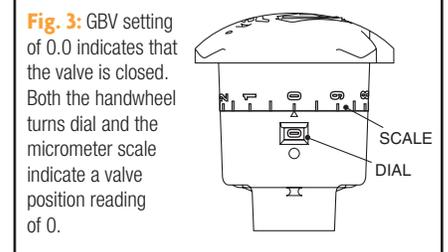

Fig. 3: GBV setting of 0.0 indicates that the valve is closed. Both the handwheel turns dial and the micrometer scale indicate a valve position reading of 0.
- **“Handwheel Turns” Dial:** This dial is printed on the outer surface of a gearing mechanism located inside the lower half of the handle assembly (Fig. 6). Each complete 360° revolution of the handwheel is visible through a display window and is scaled 0 - 5 to indicate the valve position in terms of the number of full turns. (Fig. 3)
- **Micrometer Scale:** This scale is marked 0 - 9 and is located on the upper half of the handle assembly. Each mark represents 1/10th of a full, 360° turn of opening when lined up with an arrowhead symbol, located above the handwheel turns display window. (Fig. 3)